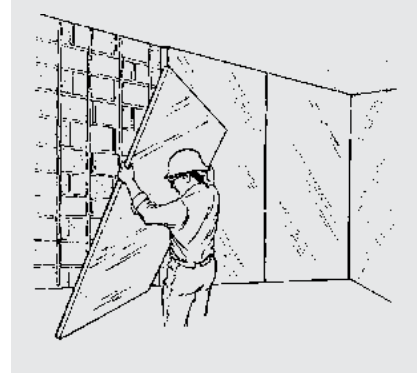

Figure 8
5. Press insulation board firmly into position between the PVC base strips (Figure 8).